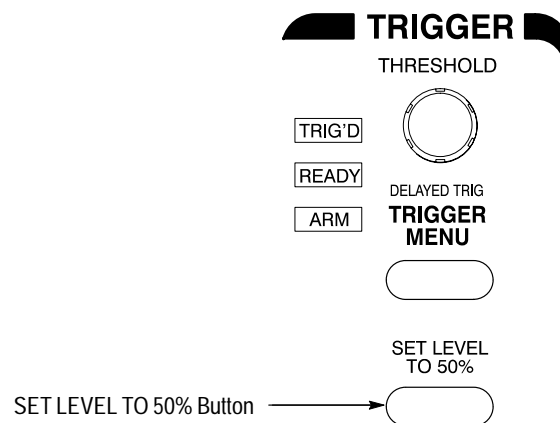

Figure 1-6: Trigger Controls
4. Press **SET LEVEL TO 50%** to be sure the logic scope triggers on the input signal. (See Figure 1-6.)